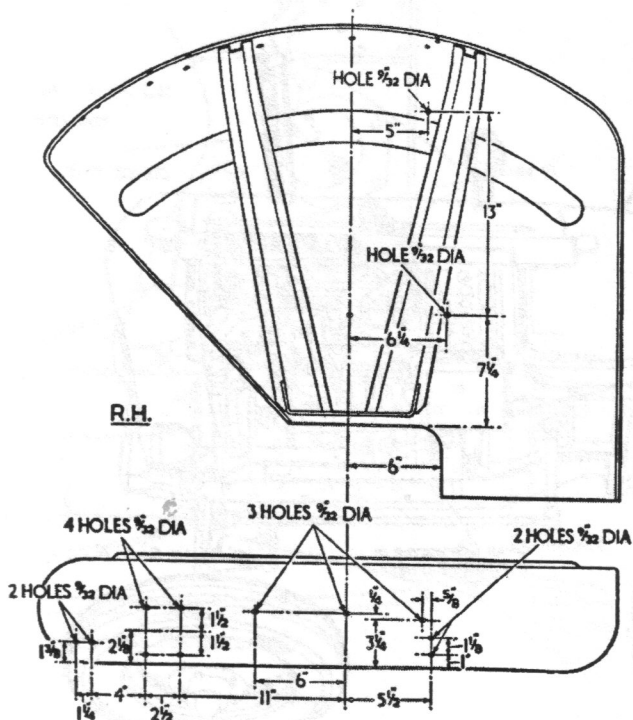

Fig. Q.3
- (2) Right-hand wing: Drill 13 $\frac{3}{32}$ in. diameter holes in the positions shown in Fig. Q.3.